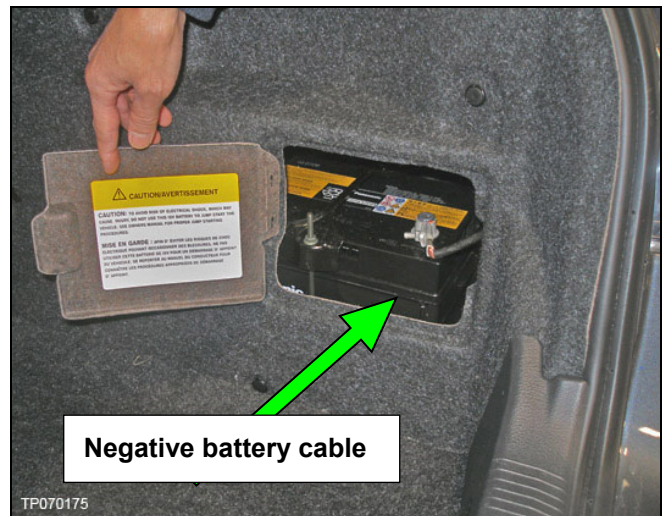

Figure 1
1. Disconnect the negative (-) battery cable from the 12-volt battery. See Figure 1.